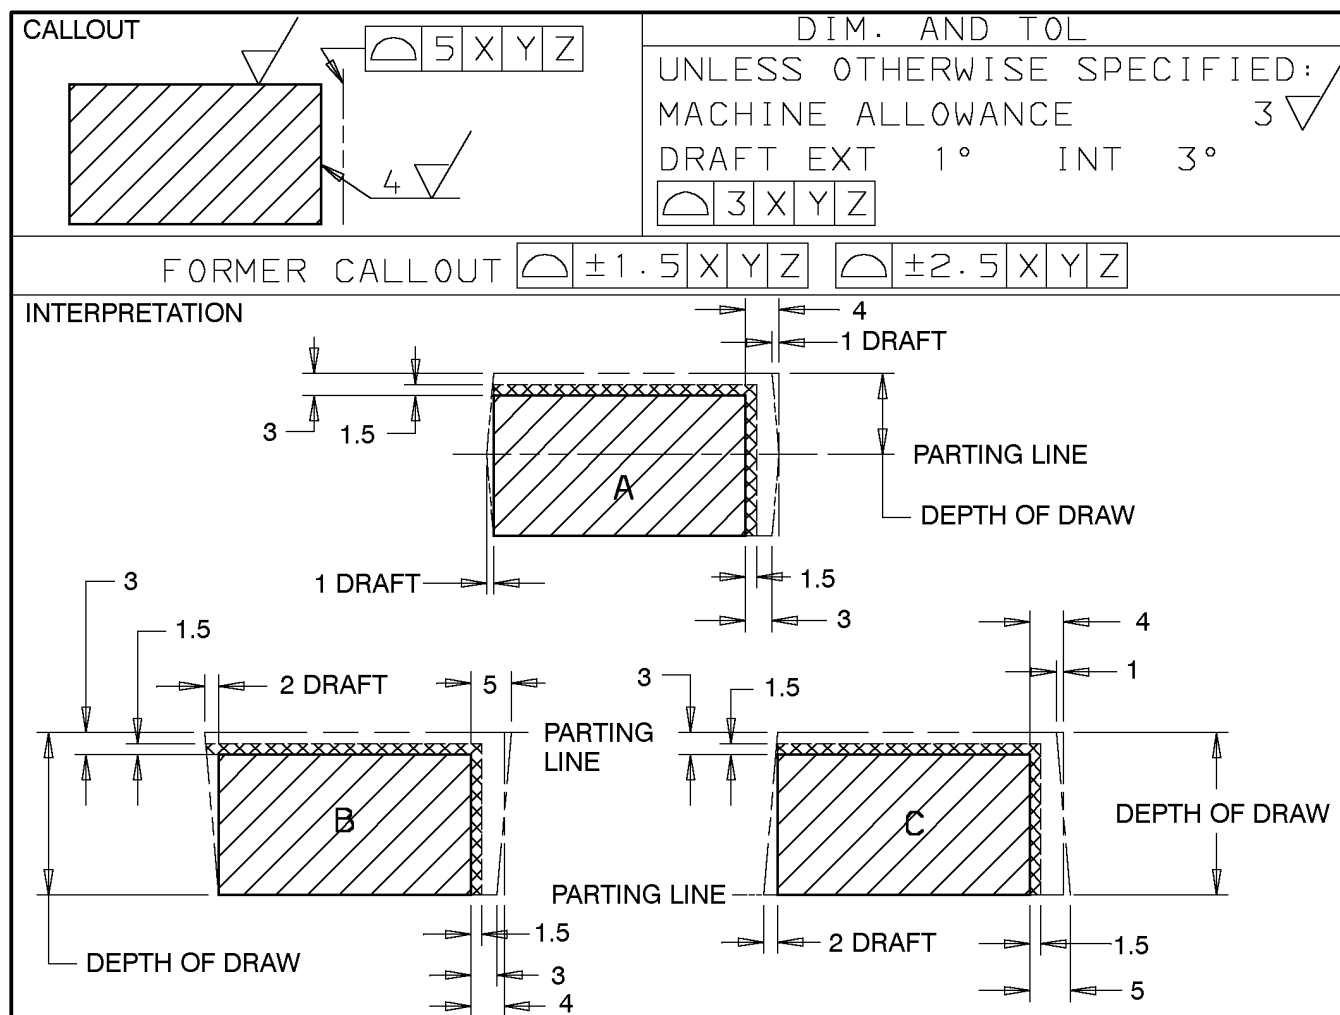

Figure 22 - Interpretation - Casting Draft and Direction of Parting - Not Shown Pictorially
**11.7** Figure 22 illustrates direction of parting, draft, and basic profile of a casting where draft is not shown pictorially on the drawing and direction of parting is indicated by special machine allowance callouts.
**11.11** Normal machine allowance for drafted surfaces of castings is large enough to permit full draft required for edge parting as shown in illustrations B and C because it is not usually known in advance where the casting supplier will locate the parting line to optimize production. The normal machine allowance selected for drafted surfaces of forgings is only large enough to provide for half draft associated with parting line located at or near the center as shown in illustration A. Interpretation of draft and parting line of forgings that are machined all over should agree with Figure 22, Illustration A.